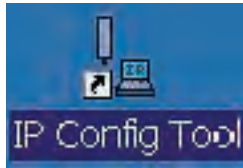
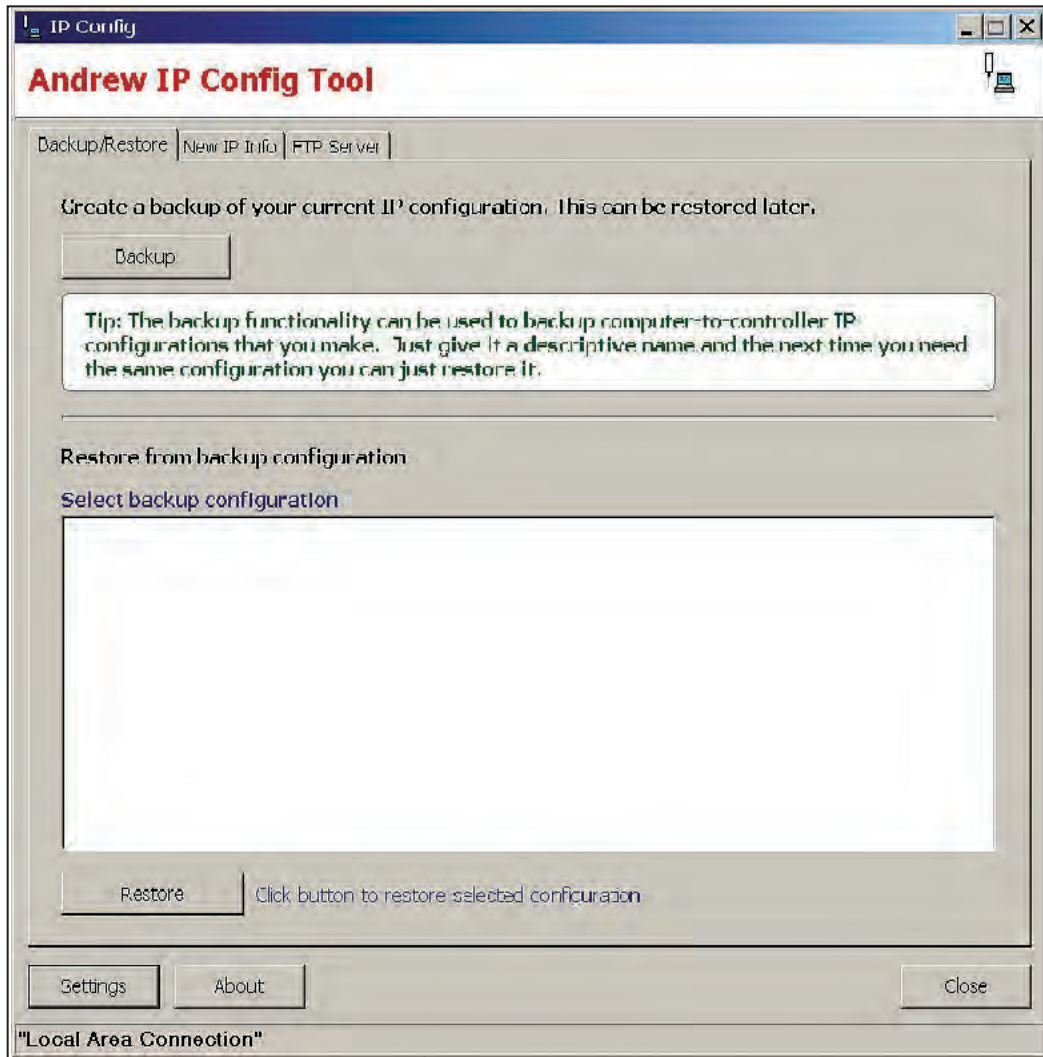
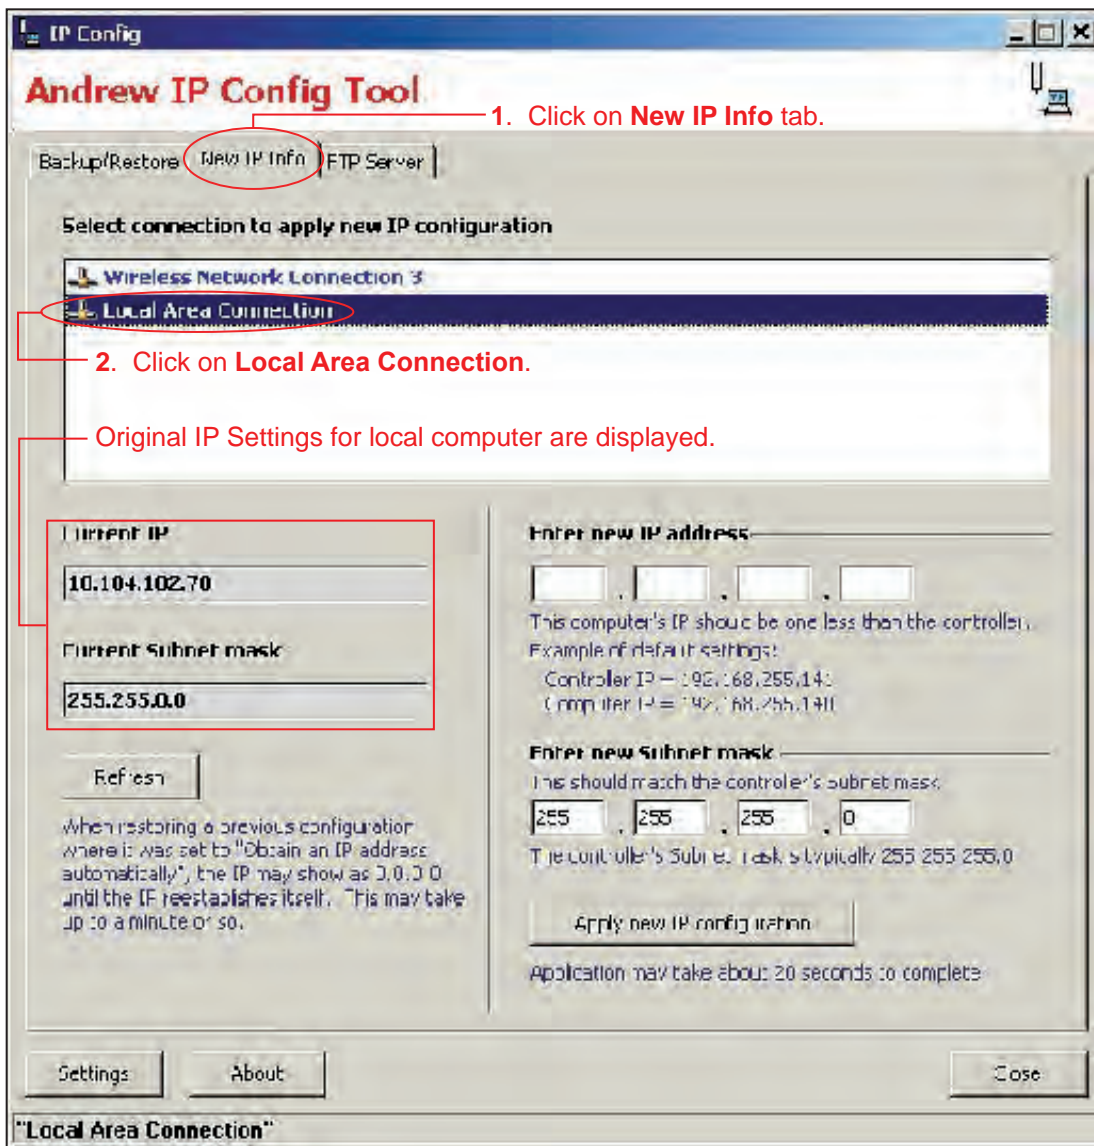

Figure 3-2.
Figure 3-3. Initial IP Configuration Tool Screen.
Figure 3-4. Entering A New IP Address For Local Computer.
From the computer's desktop, double-click on the **IP Config Tool** icon (Figure 3-2). The initial screen for the IP Config Tool program is shown in Figure 3-3.
1. After the IP Config Tool is launched (Figure 3-3), click on the **New IP Info** tab, located at the top of the screen (Figure 3-4).
2. Click on **Local Area Connection** shown in the window (Figure 3-4). While this connection is highlighted (selected), the current IP and Subnet Mask for the local computer are shown.
1. If the IP Config Tool is not already launched, double-click the **CommScope IP Config Tool** icon from the local computer's desktop to launch (Figure 3-2).